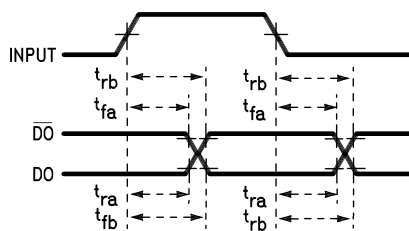

Figure 8. Driver Delay ATE Testing
(1) Differential Delays are defined as calculated results from single ended rise and fall time measurements. This approach in establishing AC performance specifications has been taken due to limitations of available Automatic Test Equipment (ATE). The calculated ATE results assume a linear transition between measurement points and are a result of the following equations:  $T_{cr} = \frac{(T_{fb} \times T_{rb}) - (T_{ra} \times T_{fa})}{T_{rb} - T_{ra} - T_{fa} + T_{fb}}$  Where:  $T_{cr}$  = Crossing Point  $T_{ra}$ ,  $T_{rb}$ ,  $T_{fa}$  and  $T_{fb}$  are time measurements with respect to the input. See Figure 8.